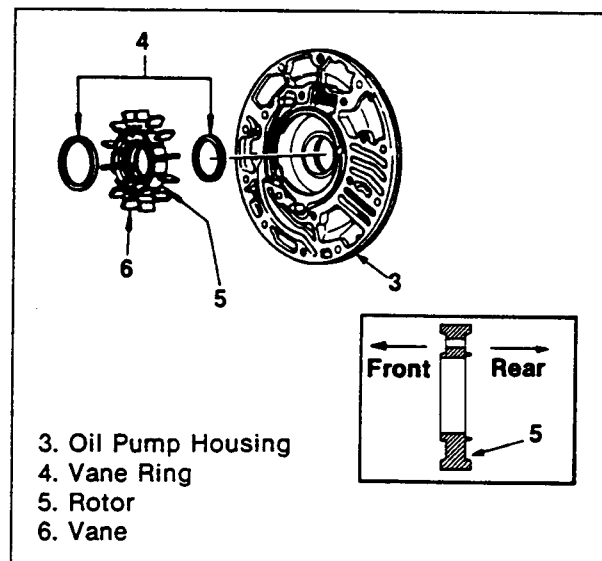

Figure 60. Vane Ring, Vane and Rotor Removal
5. Remove the vane ring, vane and rotor (figure 60).